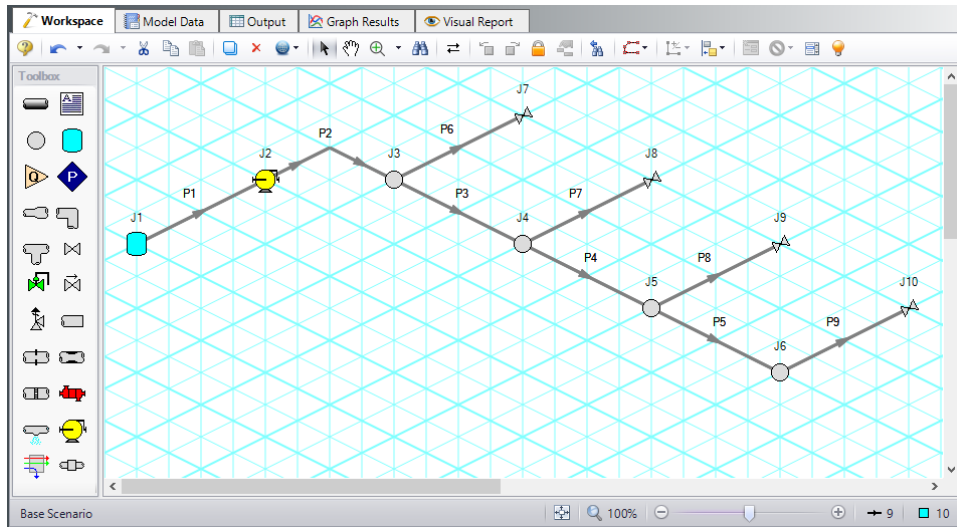

Figure 9: Compressed air system with isometric grid shown
AFT Arrow allows the user to place pipe or junction objects anywhere in the Workspace. Objects are placed on a 2D grid by default, as was the case with this example. At times it may be convenient to demonstrate the three-dimensional nature of a system. For example, if you are building a model based on isometric reference drawings. AFT Arrow includes an Isometric Pipe Drawing Mode for these cases. The isometric grid has three gridlines that are offset by 60°, representing the x, y, and z axes. Figure 9 shows the compressed air system built on an isometric grid.
3. Place junctions J1-J7 on the Workspace in the positions shown in Figure 9.